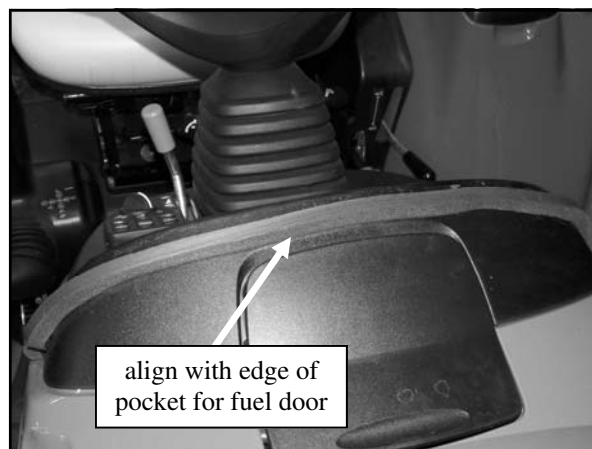

Fig. 1.7
**1.7** Per fig. 1.7, install rubber in a straight line just behind fuel door pocket. Cut even with green cowl pieces on each end (approximately 24").